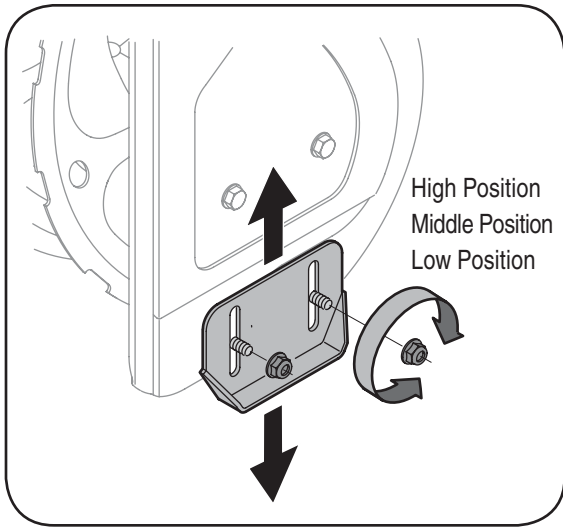
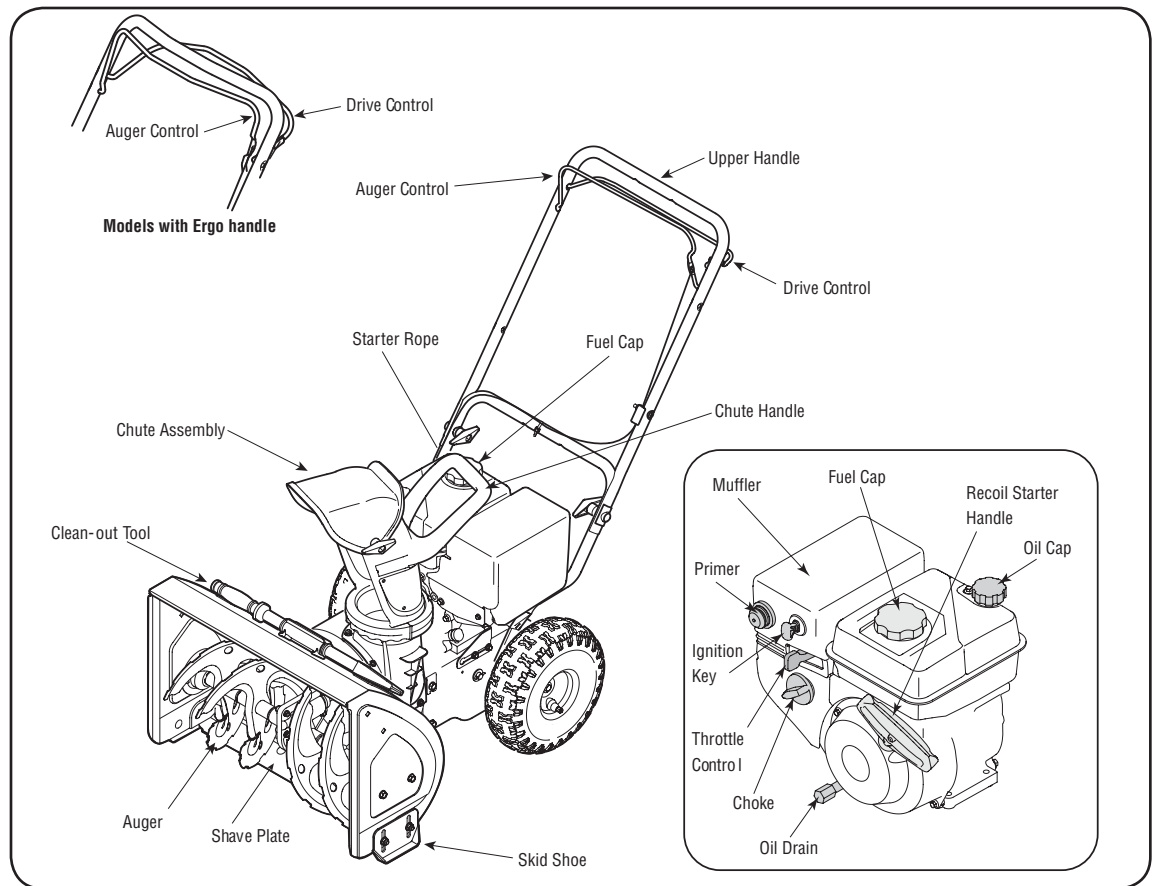

Figure 4
Figure 7
2. Slide one of the loosely fitted cable ties from the right side of the lower handle up to the cross member of the lower handle. Leave the second cable tie in place on the right side of the lower handle. See Figure 4. for reference.
NOTE: Make sure that the drive cable is routed parallel to the left upper handle, then across the top of the lower handle and finally parallel to the right lower handle. See Figure 4.
6. Three cable ties have been used to loosely tie the two control cables to the lower handle. Two of these cable ties are on each arm, and third on the top cross bar of the lower handle. Tighten these cable ties to secure the cable to the lower handle. See Figure 4.
The space between the shave plate and the ground can be adjusted. See Figure 7. For close snow removal, place skid shoes in the low position. When the area to be cleared is uneven, place skid shoes in the middle or high position. See Figure 4.
1. Adjust skid shoes by loosening two hex nuts and carriage bolts on each skid shoe, and moving the skid shoe to the desired position. See Figure 4.